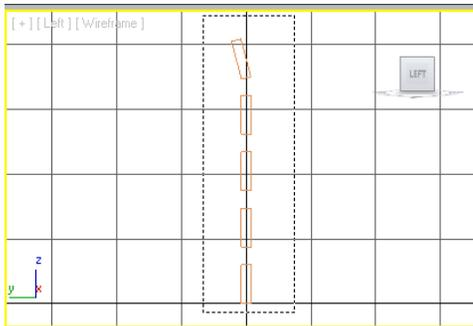

Figure 2-61 All horizontal back supports selected simultaneously
- Activate the Left viewport and choose the **Select Object** tool. Now, select all horizontal back supports by dragging a selection box around them, refer to Figure 2-61.